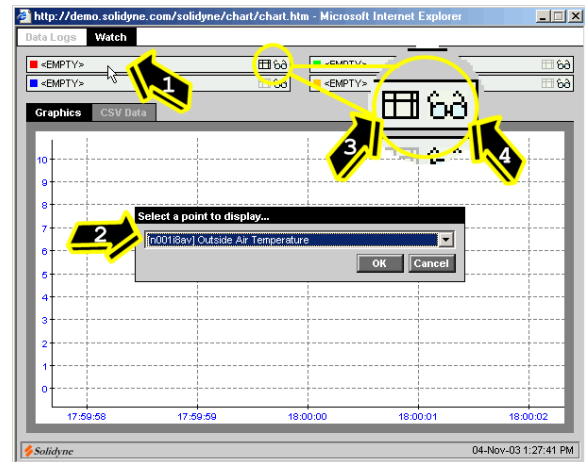

Figure 3
- Click an empty selection near the top of the window (Fig. 3, Item 1)
- Select the point you would like to log (Fig 3, Item 2)
- If you have multiple data logs being graphed at once, you can toggle the view/hide button (Fig. 3, Item 4)
- If you would like to view the raw data in table format, click the table button (Fig. 3, Item 3)